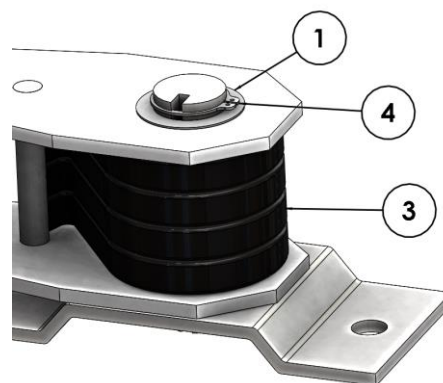

Figure 4.7
Continue installing remaining springs (3), then flat washer (1), and secure with snap ring (4) as shown in Figure 4.7. Repeat procedure for opposite side of system.